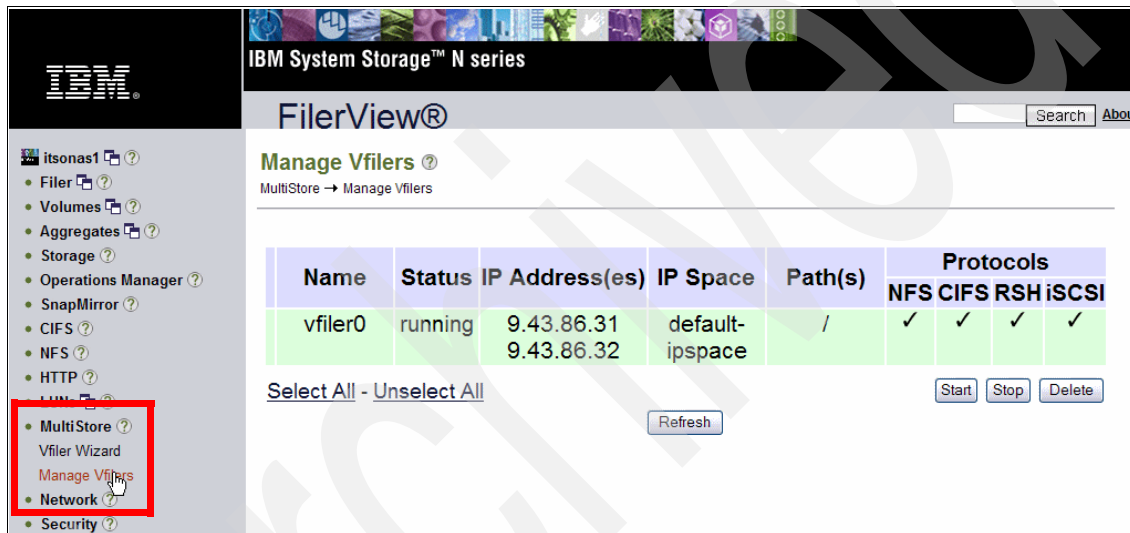

Figure 9-21 MultiStore - Initial Configuration
1. Click **MultiStore** → **Manage Vfilers**, as shown in Figure 9-21. The initial configuration includes a unique Vfiler, `vfiler0`, which is the default filer we are using.